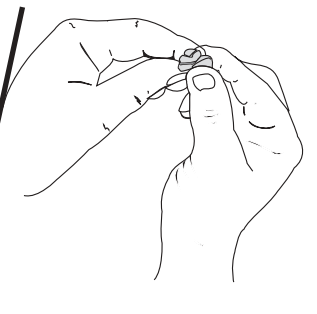

Fig. 51
5. Squeeze the filter to spread and remove excess oil (Fig. 51).